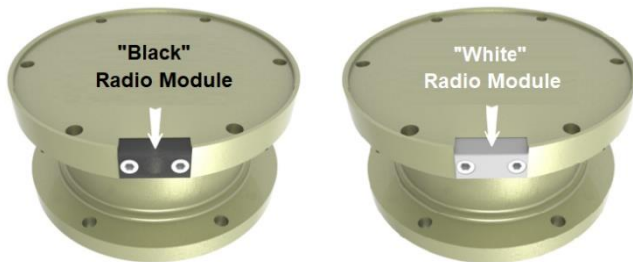
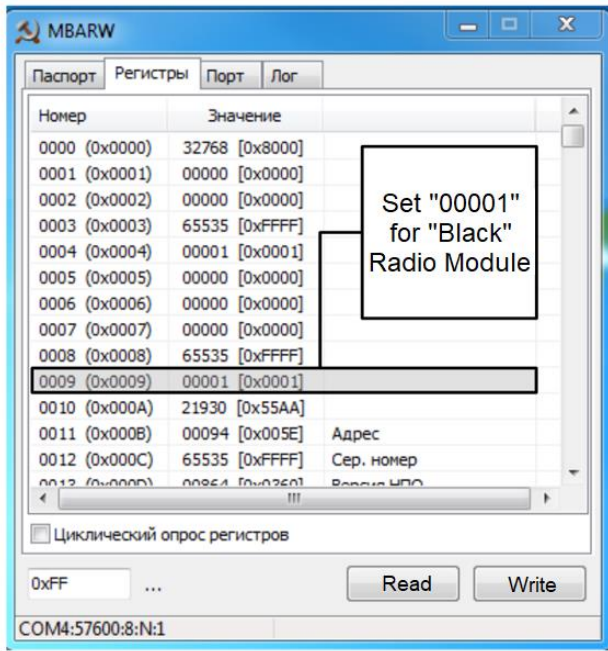

Figure 6. Types of radio module of the DCM-140(R)
Figure 7. MBARW service software interface (the PS-150(R) setup)
The PS-150(R) has nameplate with the Firmware version (see Fig. 5). The 3.60 and above versions are suitable to communicate with the DCM-140(R) sensors that are equipped by both, "black" and "white" radio modules (see Fig. 6), however, this version is set up for "black" radio module by default. To adjust the PS-150(R) to the required DCM-140(R) it is necessary to connect to the Signal Transducer by USB-RS485 converter and service cable, to setup dedicated COM-port in the browser and using the MBarw service software set the value of register #9 to "00001" for "black" radio module (see Fig. 7) or to "00257" for "white" one (See Fig. 8). Press the "Write" button then.
The PS-150(RA) with the Firmware version 4.21 and above are suitable to communicate with the DCM-140(R) sensors that are equipped by both, “black” and “white” radio modules (see Fig. 6), however, this version is set up for “black” radio module by default. To adjust the PS-150(RA) to the required DCM-140(R) it is necessary to connect to the Signal Transducer by USB-RS485 converter, service cable and using the mm_calibrat service software perform the following adjustments: